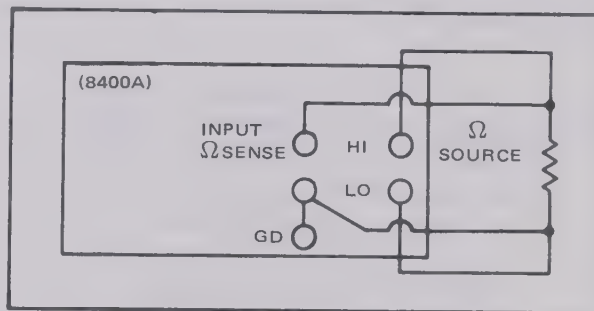

Figure 6-2. EQUIPMENT CONNECTIONS FOR OHMS TEST
6-30. OHMS TEST. The ohms function is checked at full scale on each of four ranges on the DVM. Connect equipment as shown in Figure 6-2. Connect each of the standard resistors in Table 6-4, observing appropriate readout as indicated.
- Connect equipment as shown in Figure 6-2.
- Connect the resistance indicated in Table 6-6 as shown in Figure 6-2 and perform the corresponding adjustment.